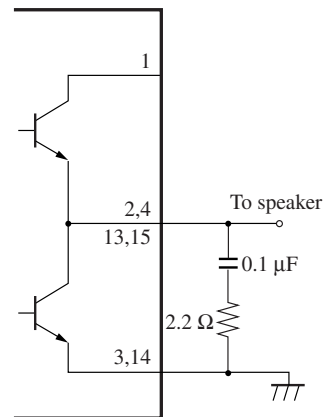

Figure 2
- 1) In order to increase the oscillation allowance, connect a capacitor and a resistor in series between each output terminal and GND as shown in figure 2.